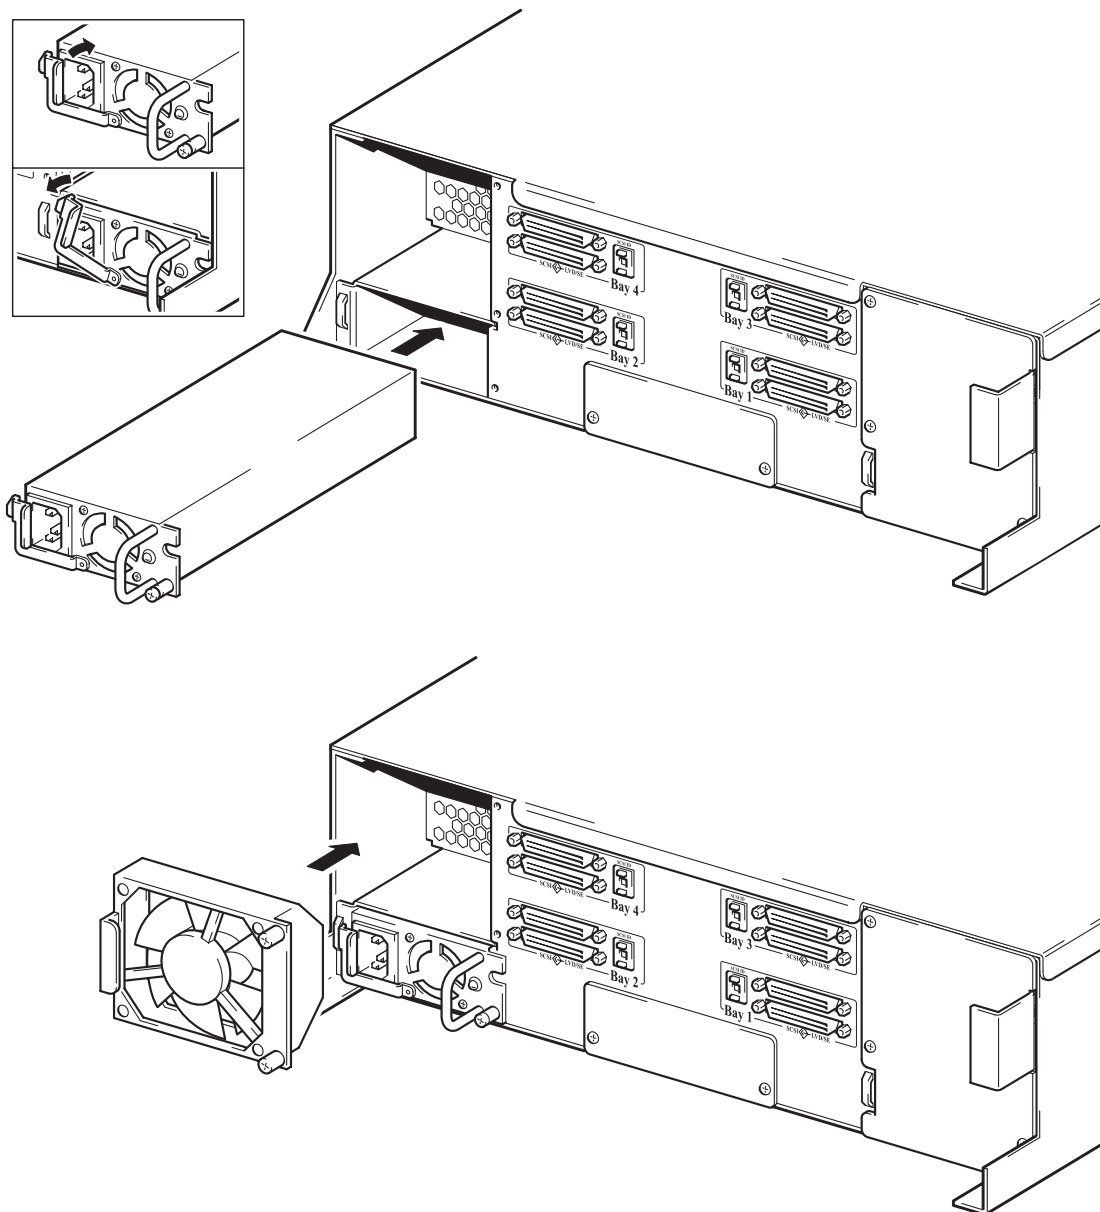

Figure 11: Replace fans and power supply
- 2 Align the replacement fan unit as shown in Figure 11. Slide the fan unit into the opening.
- 3 Align the new power supply unit so that the yellow warning label is uppermost. Insert the power supply unit, which must not have a power cable connected, and slide it into the opening, as shown in Figure 11. Rotate the locking mechanism clockwise, sufficient to clear the retaining lug, and push the unit fully home.